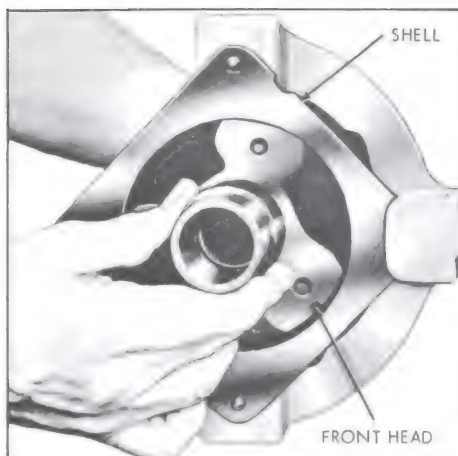

Figure 11-122—Removing Front Head
5. Remove compressor front head, using rubber mallet or wood block to unseat head from shell. See Figure 11-122. Care must be used to protect teflon surface on head from being damaged.